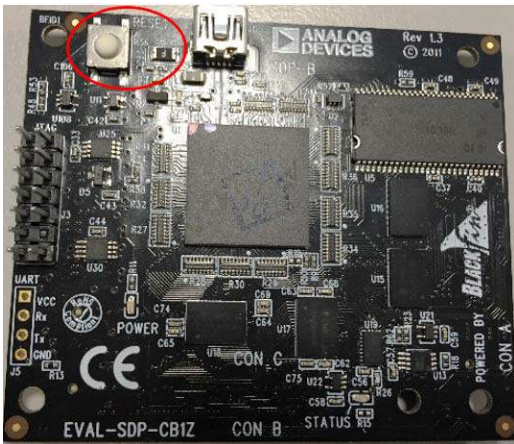
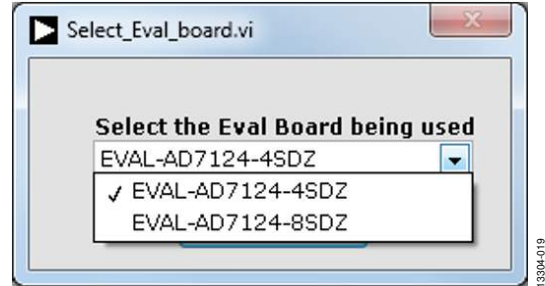
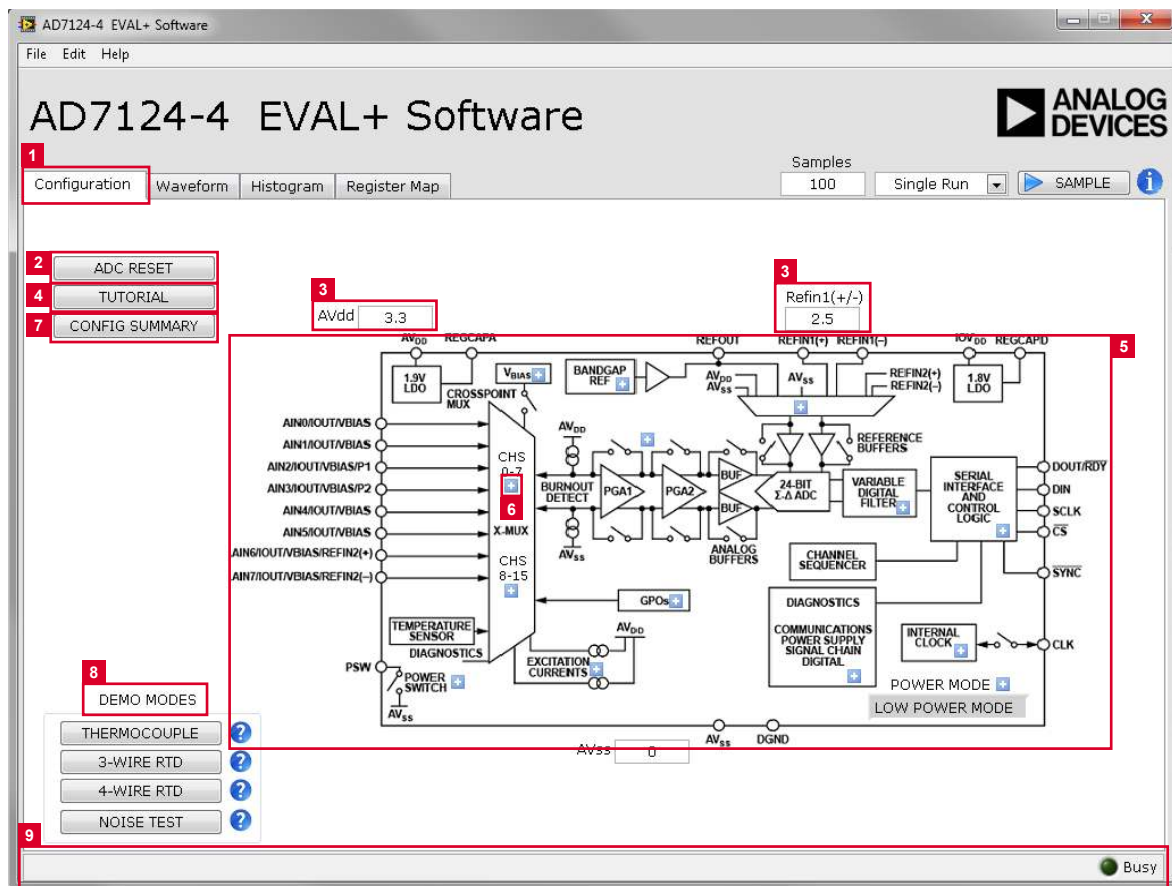

Figure 17. SDP Connectivity Board—RESET Button
Figure 19. EVAL-AD7124-4SDZ Evaluation Board Selection
Figure 20. Configuration Tab of the AD7124-4 EVAL+ Software
1. From the **Start** menu, click **Programs > Analog Devices > AD7124 Eval+ > AD7124 Eval+**. The dialog box in Figure 19 appears; select **EVAL-AD7124-4SDZ**, and the main window of the software then displays as shown in Figure 20.
When the software starts running, it searches for hardware connected to the PC. A dialog box indicates when the generic SDP attached to the PC is detected, and then the main window appears (see Figure 20). Press the RESET button on the SDP board, as shown in Figure 17.
The evaluation software supports both the AD7124-4 and the AD7124-8 devices. On running the software, the user selects the evaluation board that is connected to the PC. For the AD7124-4, select **EVAL-AD7124-4SDZ** from the drop-down list, as shown in Figure 19.
After selecting the EVAL-AD7124-4SDZ evaluation board, the main window of the evaluation software displays, as shown in Figure 20. Figure 20 shows the significant control buttons and analysis indicators of the AD7124-4 EVAL+ Software. The main window of the AD7124-4 EVAL+ Software contains four tabs:
The **Configuration** tab shows a block diagram of the AD7124-4. It allows the user to set up the ADC, reset the ADC, read the diagnostics to see errors present, as well as configure the device for different demo modes. Figure 20 shows the **Configuration** tab in more detail, and the following sections discuss the different elements on the **Configuration** tab of the software window.